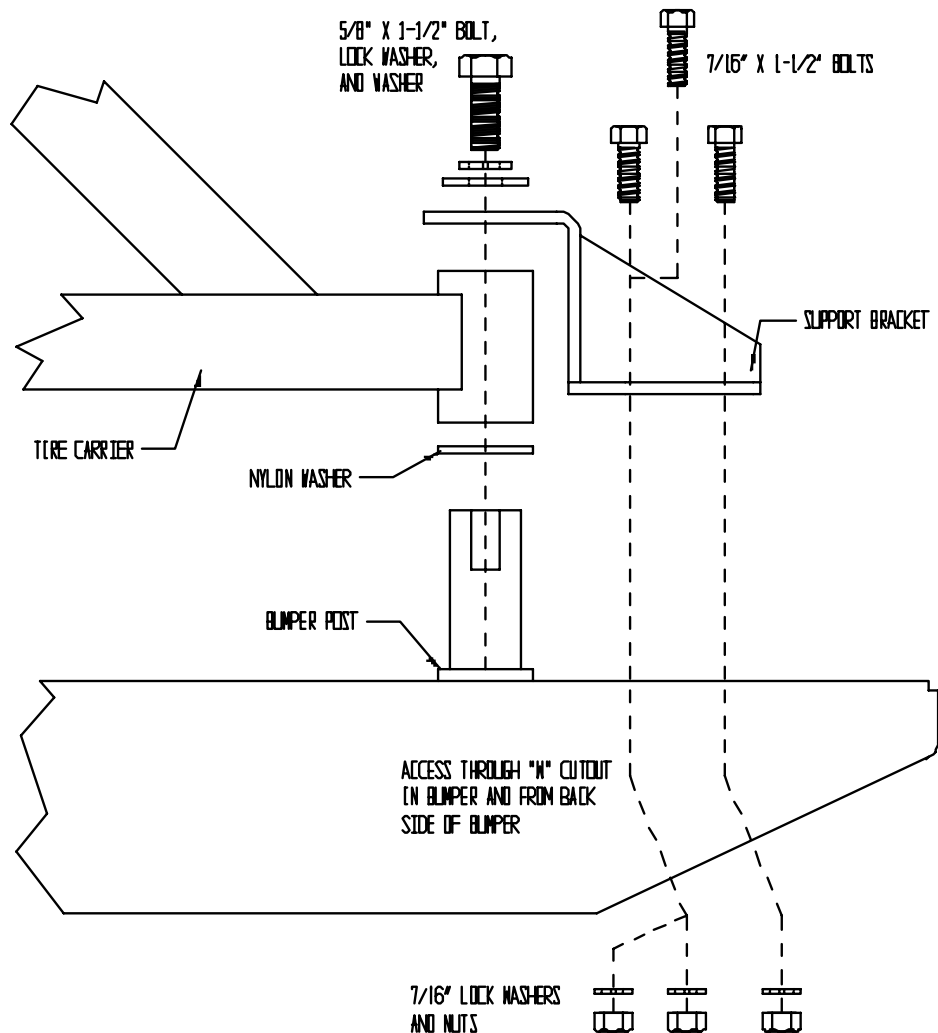

Figure 4
the bumper and slide it all the way down. Place the round tube end of the tire carrier on the post sticking up out of the passenger's side of the bumper and slide it all the way down. **See Figure 4.**
10. Install the post support bracket to the bumper. Using the supplied 5/8 x 1 1/2" bolt, lock washer, and washer, hand tighten the bracket to the post. Then install the 3 supplied 7/16 x 1 1/2" bolts and washers through the support bracket and the bumper. Install a 7/16" washer, lock washer and nut on each bolt inside the bumper. It may be necessary to use a magnet or needle nose pliers to install the nuts and washers onto the bolts. On CJ models it may be necessary to install the two bolts that are furthest forward and match drill the 3rd rear hole. This is due to the tight packaging of the bumpers ends. **See Figure 4.**